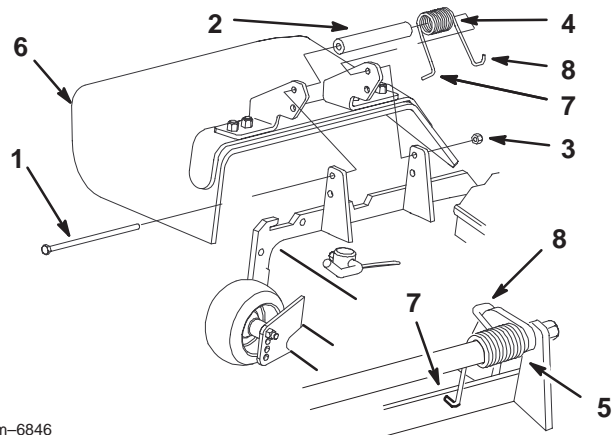

Figure 79
1. Remove the locknut, bolt, spring and spacer holding the deflector to the pivot brackets (Fig. 79). Remove damaged or worn grass deflector.
Note: Make sure the L end of spring is installed behind deck edge before installing the bolt as shown in figure 79.
3. Install bolt and nut. Place J hook end of spring around grass deflector (Fig. 79).